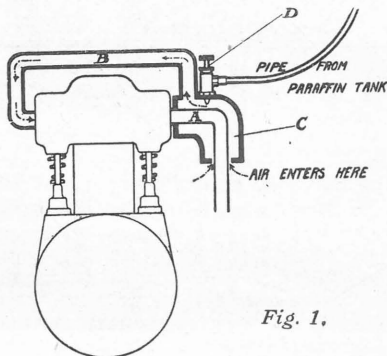

Fig. 1.
Now, most commercial motors use paraffin or heavy oil as fuel, so we will first consider some kinds of vaporizer suitable for paraffin. We will start with the simplest possible vaporizer. Fig. 1 represents an ordinary four-stroke motor, A being the exhaust pipe and B the inlet pipe. There is a jacket or outer pipe (marked C) surrounding the exhaust pipe, and this jacket is open at its lower end to the air, while the inlet pipe (B) leads out of the top of it. If we suppose the engine to be running, the exhaust pipe will, of course, be hot; the suction of the piston will draw air through the jacket (C) and the pipe (B), and this air will be warmed by passing over the exhaust pipe.
We must now turn to Fig. 3, which shows the jet and float chamber again, but with a pipe (C) surrounding the jet and taking the place of the jacket (C) in Fig. 1. The jet takes the place of the needle valve (D) in Fig. 1. The engine draws warm air through the pipe (C), which, it will be noticed, is smaller just above the jet, and so produces a very powerful suck. Paraffin is drawn up in a spray and mixed with the air.